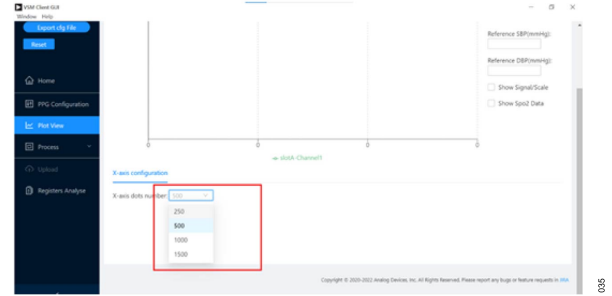

Figure 35. Change X-Axis Dots Number
3. To adjust the dots number on the x-axis, select a value from the **X-axis dots number** dropdown menu (see Figure 35).